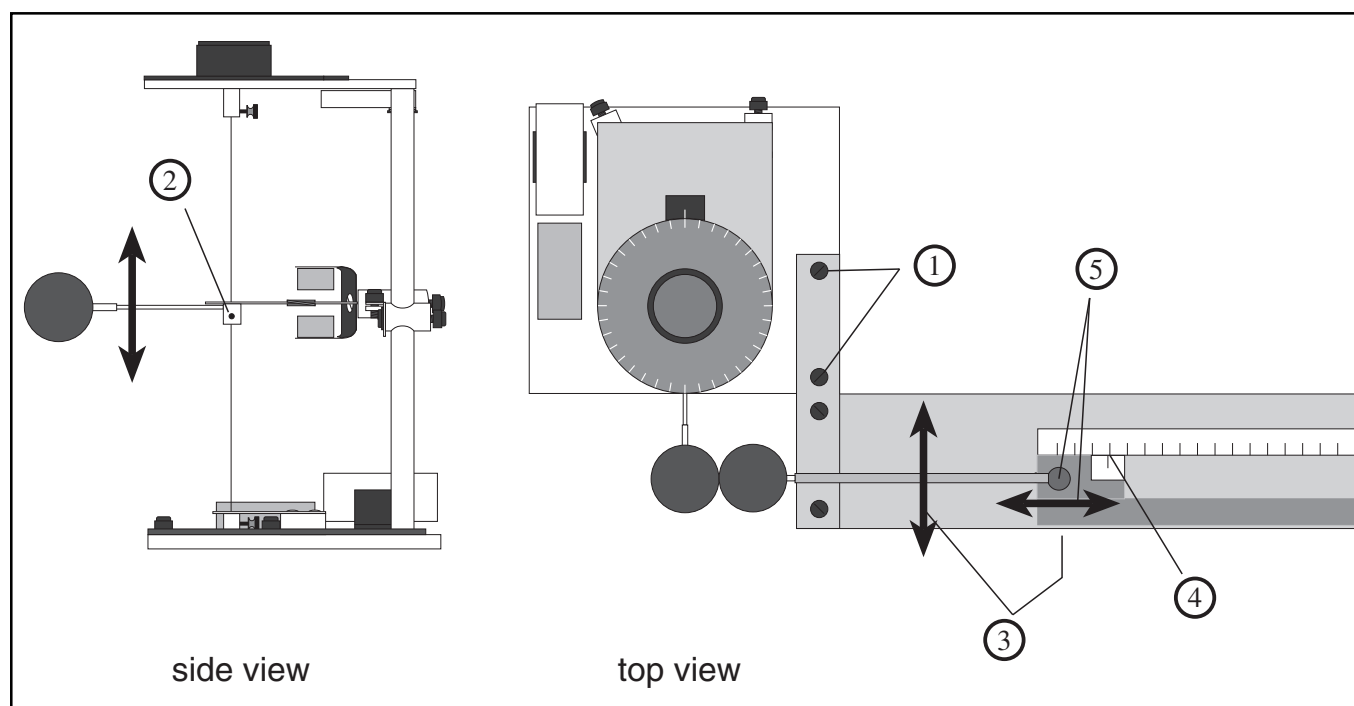

Figure 5. Slide Assembly Setup
(Refer to Figure 5)
- ① *Connect the slide assembly* to the torsion balance as shown in Figure 5, using the coupling plate and thumbscrews to secure it in position.
- ② *Align the spheres vertically* by adjusting the height of the pendulum assembly so the spheres are aligned: Use the supplied allen wrench to loosen the screw that anchors the pendulum assembly to the torsion wire. Adjust the height of the pendulum assembly as needed.